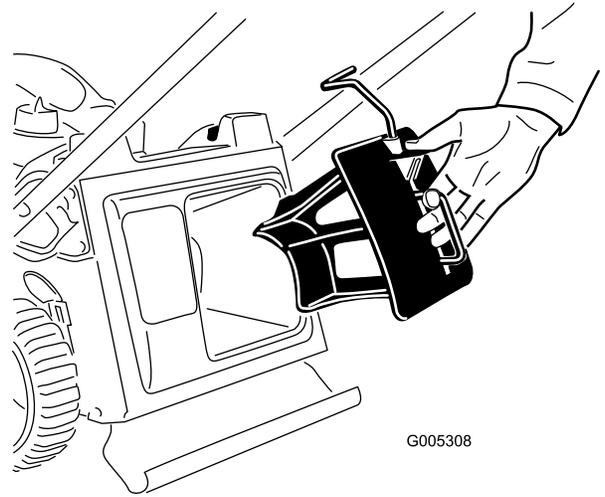

Figure 8
1. Insert the mulch plug into the machine if it is not already installed (Figure 8).